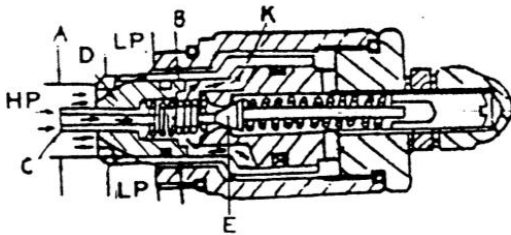

Fig.6.5
(1) The main safety valve must be installed between the cylinder HP port and LP passage. The oil that pass through the valve core will be acting on the different diameter surface A & B, so the core K of the one-way valve and the core D of the main safety valve will be firmly fall into the valve base. (See Fig.6.5)